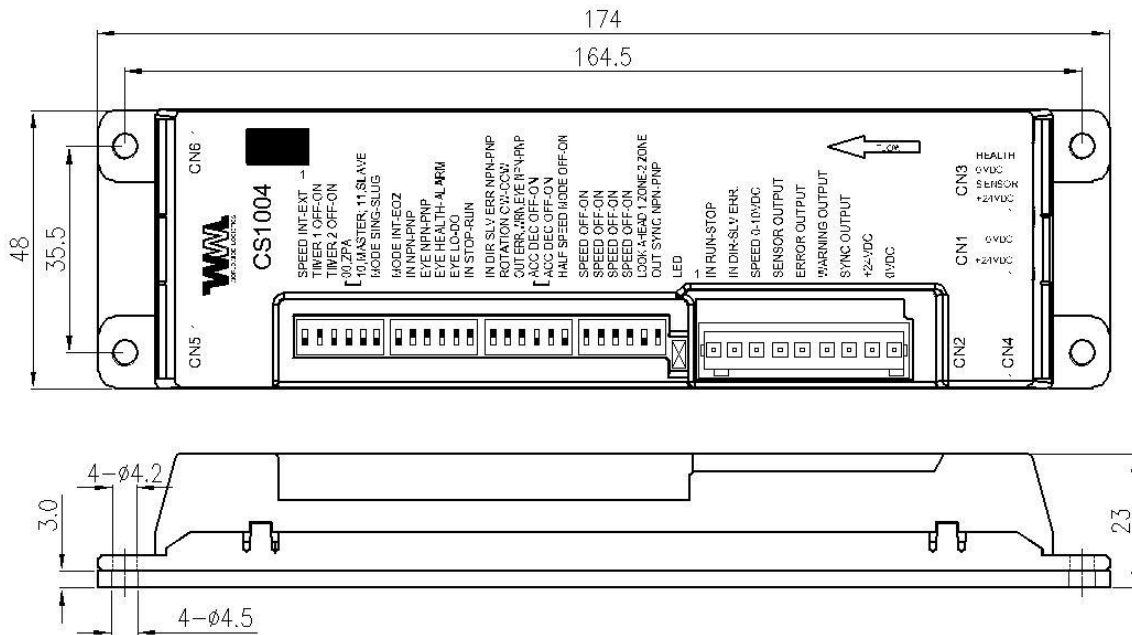

Figure 1: The Location of Four Mounting Holes (unit in “mm”)
- Four mounting holes are used to mount control card onto the base. **Figure 1** shows the location of four mounting holes and dimension of the card.